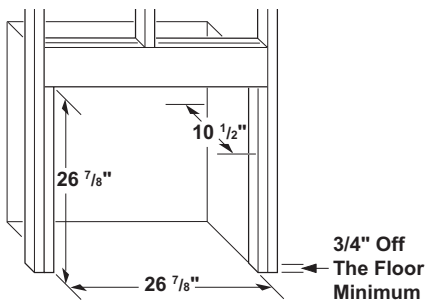

Figure 10 - Rough Opening for Installing in Wall
1. Frame in rough opening. Using dimensions shown in Figure 10.